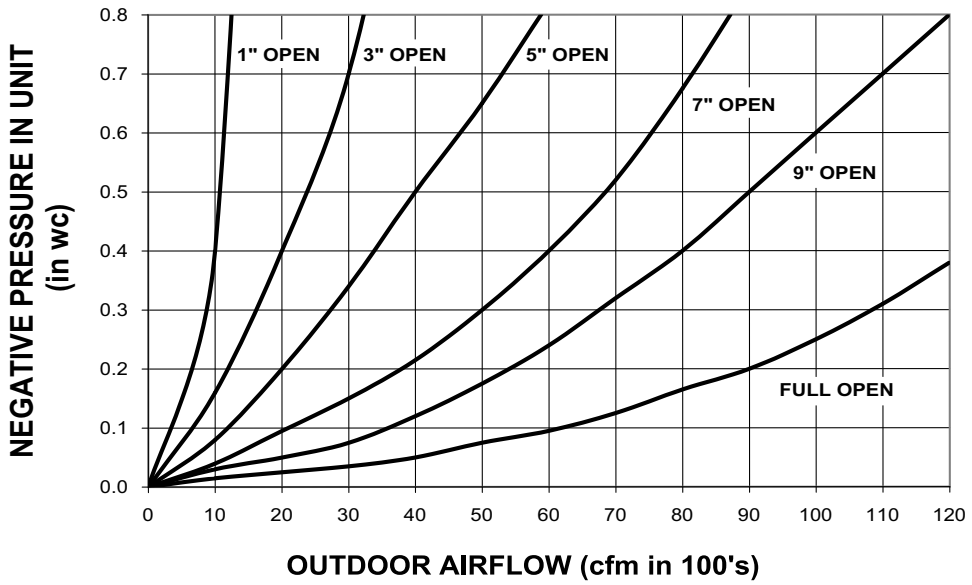

Fig. 4 - Outdoor-Air Intake Position Setting (2 - 6 Ton R-410A and R-22 Units)
5. Adjust minimum position setting of the outdoor damper blade by adjusting screws on the front of the blade. (See Fig. 3.) Slide blade vertically until blade is in the position determined by Fig. 4 or 5. Tighten screws.